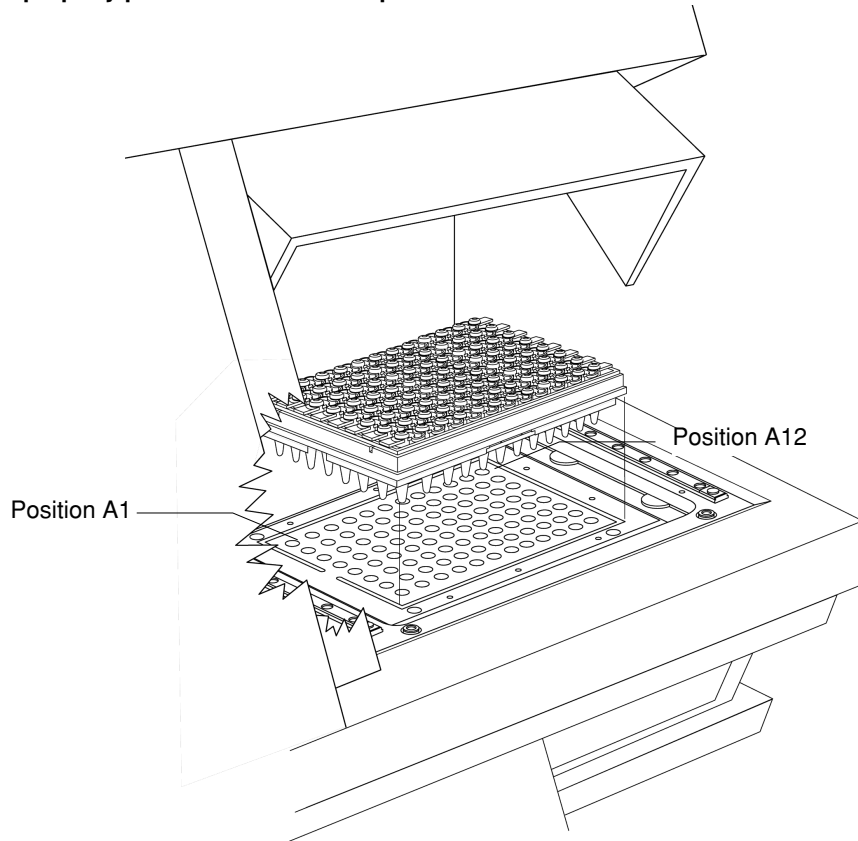

Figure 3-13 Placing a 96-Well Tray on the Sequence Detector Sample Block
- ◆ Place the 96-well sample tray on the Sample Detector Sample Block as shown in Figure 3-13.
The 96-well sample tray fits on the sample block in only one position. An opening on the left side of the tray fits onto a protrusion on the surface of the sample block. When the tray has been correctly placed in the sample block, the A1 position on the sample tray sits in the upper left-hand corner of the sample block (Figure 3-13).